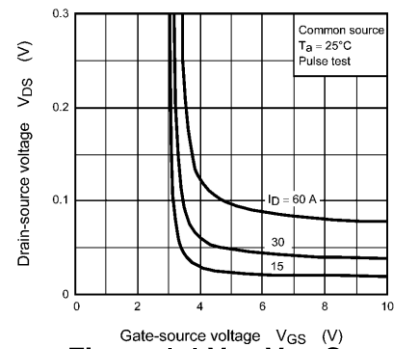

Figure 1.4 V_{DS} - V_{GS} Curves
- V_{GS} exceeds their threshold voltage V_{th} (Figure 1.2). It is therefore necessary to choose a value for V_{GS} that is sufficiently higher than V_{th} . There is a tendency that the higher the V_{GS} , the lower the $R_{DS(ON)}$ value becomes. Also, the higher the temperature, the higher the $R_{DS(ON)}$ value becomes (Figure 1.3). In order to reduce loss, it is important to increase V_{GS} in order to minimize the resistance of the device at the current level at which it is used (Figure 1.4). Conversely, a high V_{GS} value increases the drive loss at light loads for high frequency switching. Selecting the optimal gate voltage is therefore critical.
- (3) Generally, it is recommended to drive the gate of many power MOSFET at a V_{GS} of 10 V. Toshiba's product portfolio also includes power MOSFETs designed for gate drive at a V_{GS} of 4.5 V. Select the power MOSFET that best suits your equipment requirements.